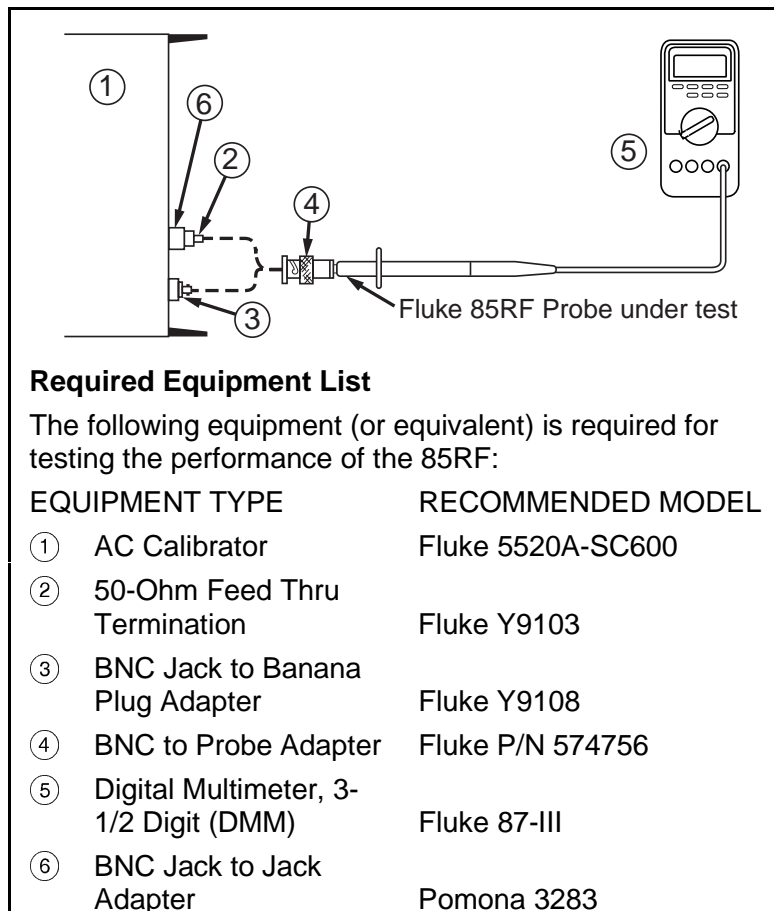

Figure 2. Equipment Configuration for Performance Testing
1. Set up the equipment as shown in Figure 2. Using the leveled sine function of the scope output, set the AC